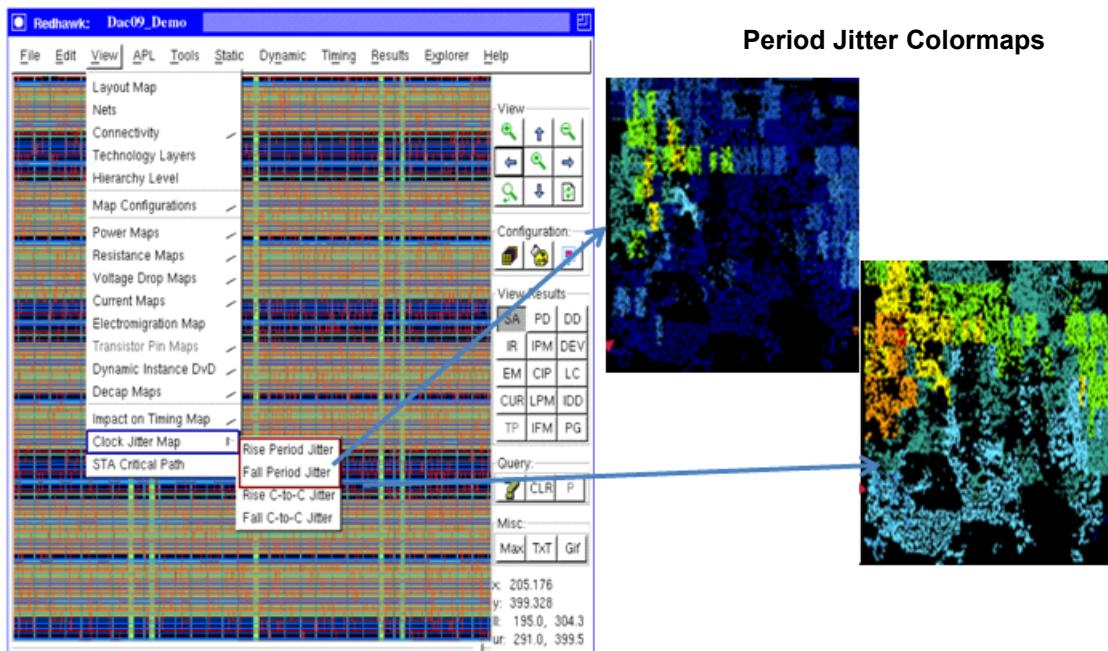

Figure 8-19 Period jitter colormaps
- Period jitter instance colormaps - Click on **View->Clock Jitter Map->Rise/Fall Period Jitter**. The selected colormap is displayed (see Figure 8-19). This can also be displayed using the TCL ‘show jitter’ command.